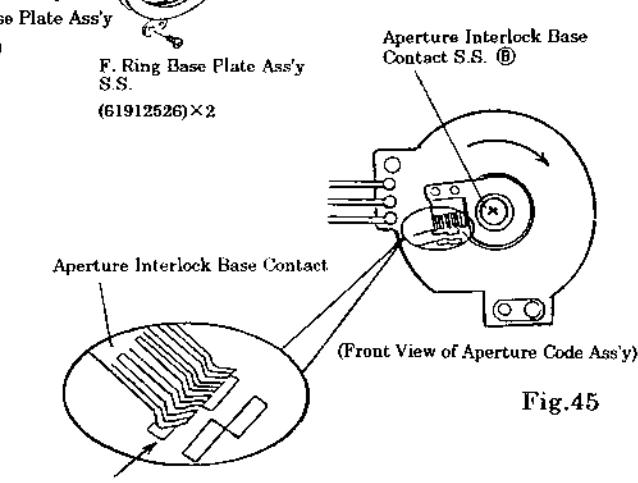

Fig.45
- 4) As a preliminary turning, turn the Aperture Interlock Base Contact of the Aperture Code Ass'y (1AAAB360) in the direction of the arrow. Then install the Mount Base so that the center of the round end of the Aperture Interlock Base Contact is placed on the second aperture code pattern. (See Fig. 45)
If it is dislocated, loosen the Aperture Interlock Base Contact Setscrew ⑧ and adjust the position again. (See Fig. 45)